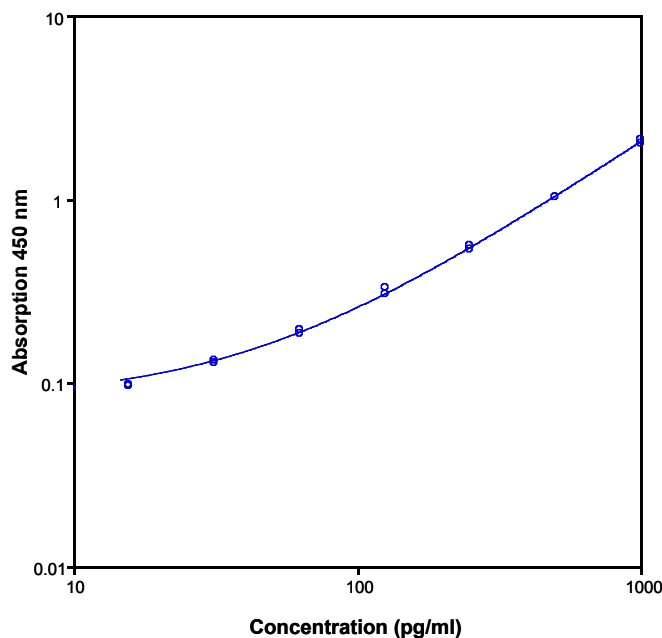

Fig. 7 Representative standard curve for human t-PA ELISA. Human t-PA was diluted in serial 2-fold steps in Sample Diluent.
- A representative standard curve is shown in Figure 7.